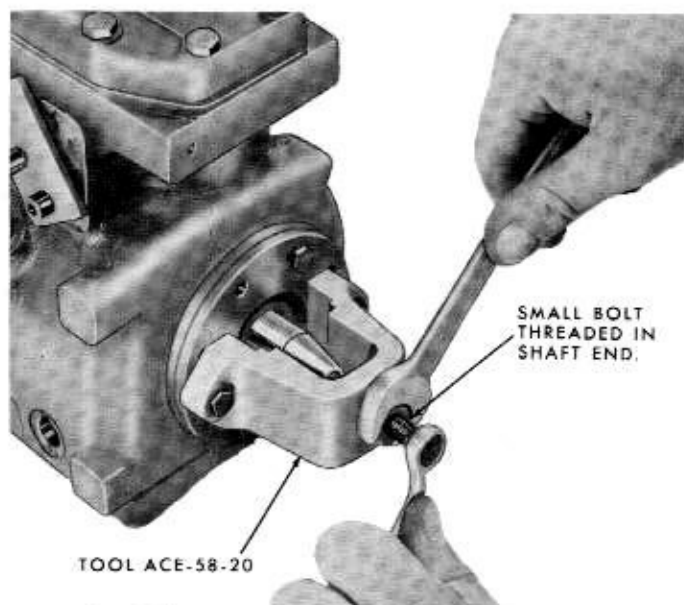

Fig. 8-7—Installing the Bearing Support Plate
9. Attach Tool ACE-58-20 to the bearing support plate. Position the bearing support gasket and force the bearing support plate into position. (See figure 8-7.) When